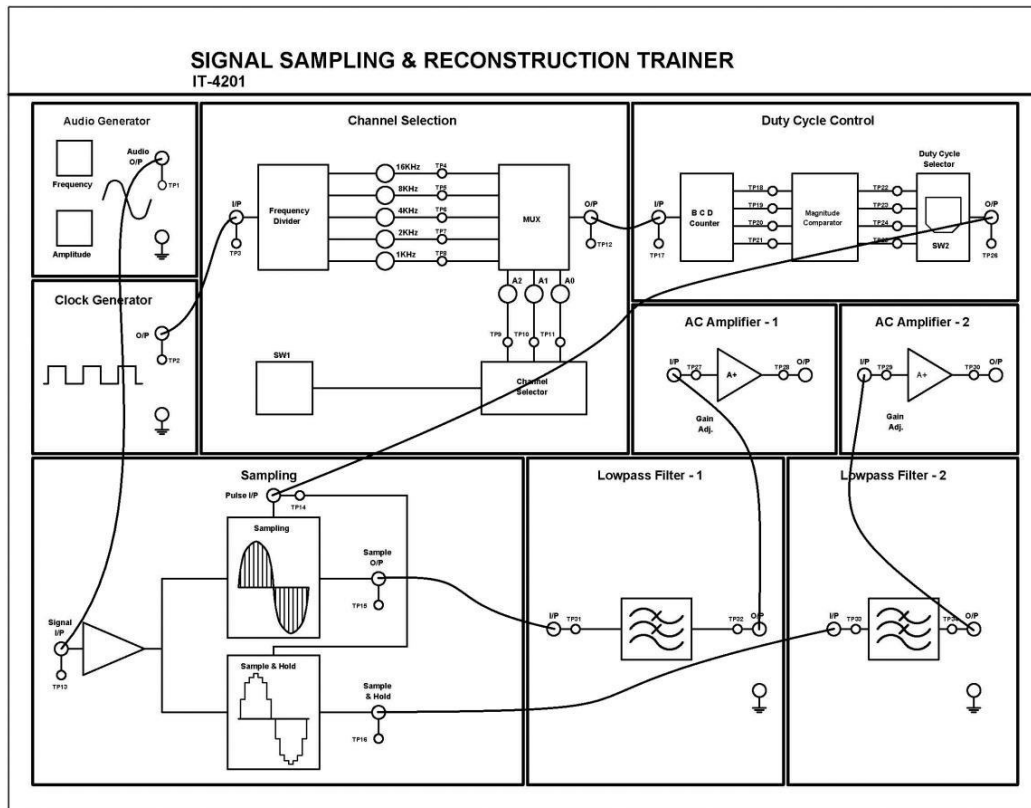

Fig. C.1: Experimental Setup
5. Make connections using 2mm patch cords as shown in Fig. C.1.